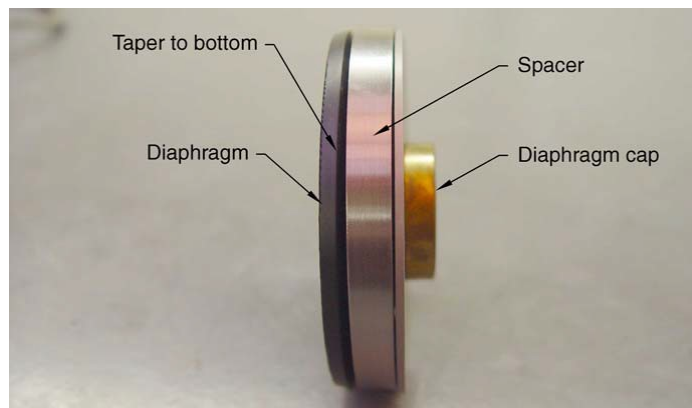

Figure 3-4 Diaphragm with Top Support and Spacer
2. Attach the top support and spacer to the diaphragm (Figure 3-4).
3. Attach the diaphragm and spacers to the center paddle (Figure 3-4).